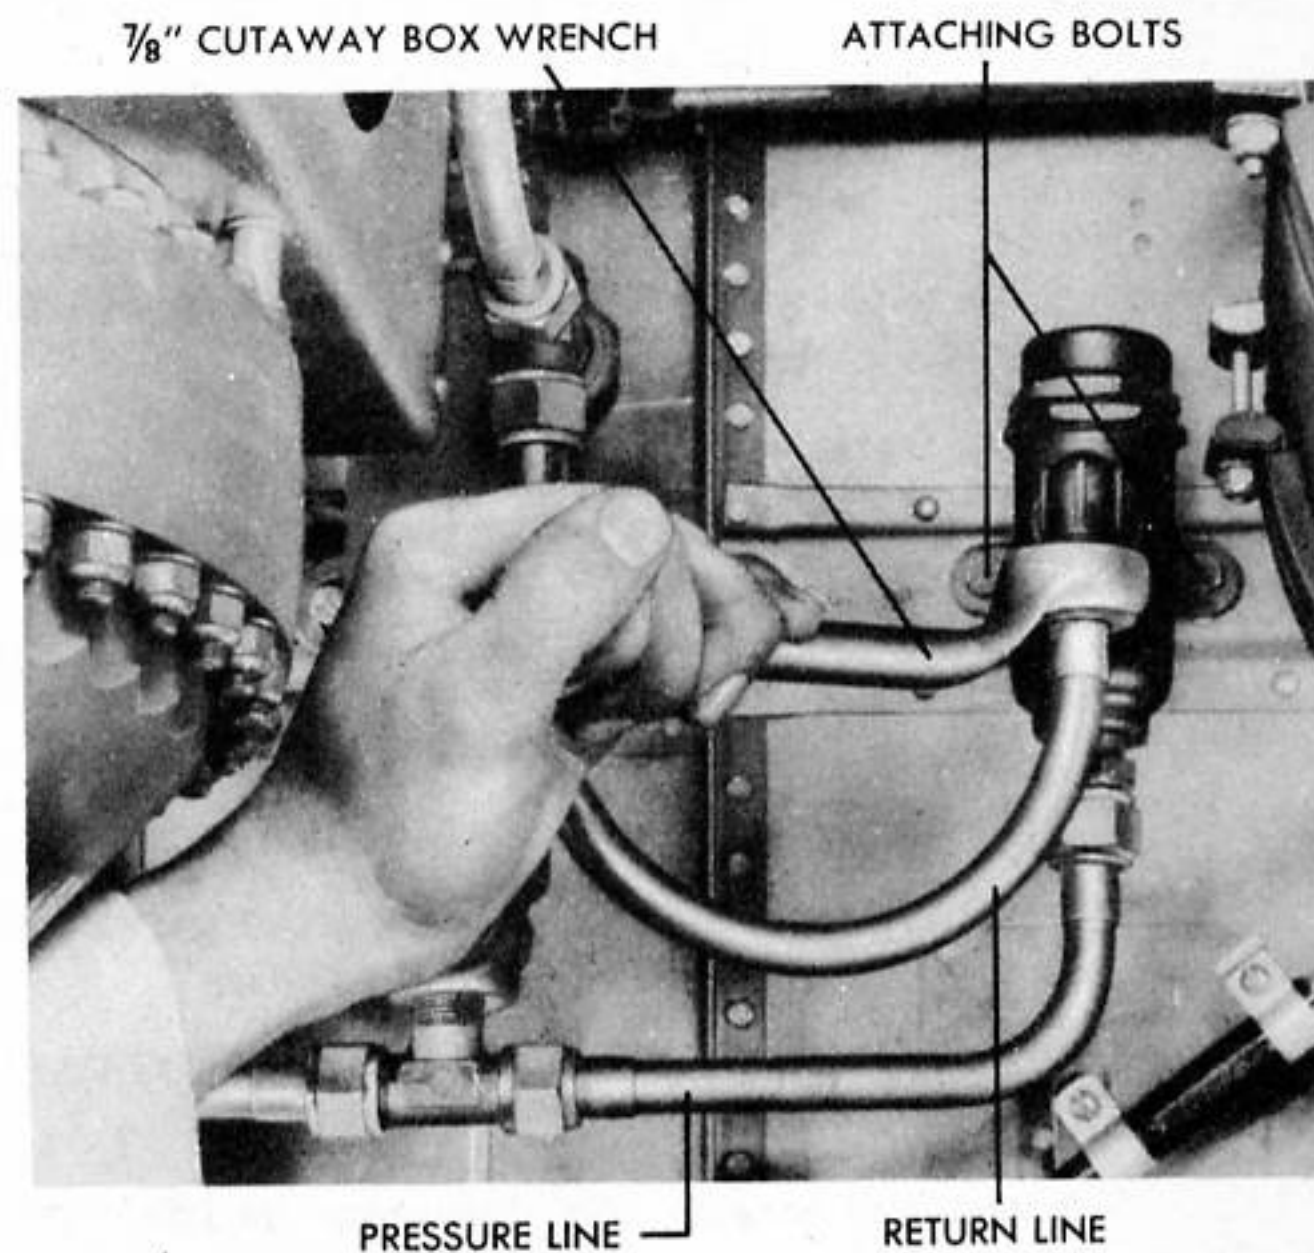

Figure 205 - REMOVING PRESSURE REGULATOR RELIEF VALVE
(9) REMOVAL OF PRESSURE REGULATOR RELIEF VALVE. (See figure 205.)